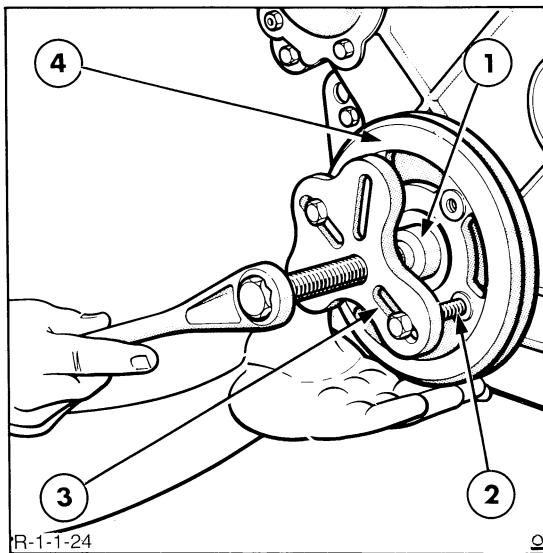

Figure 24
3. Using Puller No. 518 or 9539 and Shaft Protector No. 625-A or 9212, remove the crankshaft pulley, Figure 24.